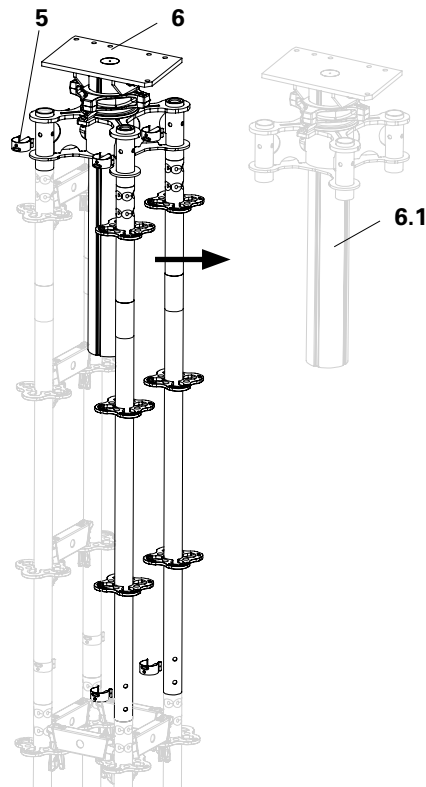

Fig. A4.02a
1. Lower the head spindle (6).
2. Remove the horizontal ledger (3) up to the joint of the standard on three sides of the prop.
3. Remove the  $\varnothing$  48/57 locking pins (5) from two opposite standards.
- (Fig. A4.02a + A4.02b)